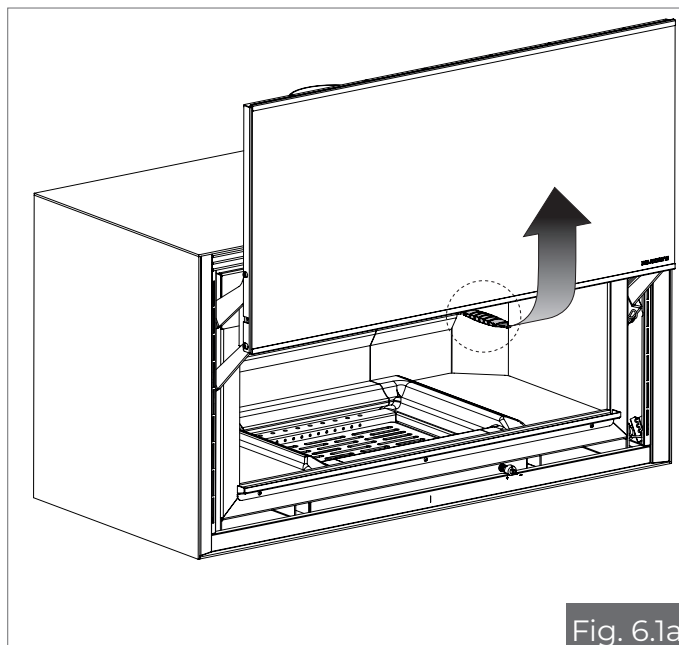

Fig. 6.1a
- **IKI 16:9/IKI 16:9 TF and IKI Square:** insert the supplied key into the centre opening hook (Fig. 6.1a), and pull toward you. Attention! a system equipped with springs will tend to automatically raise the door.